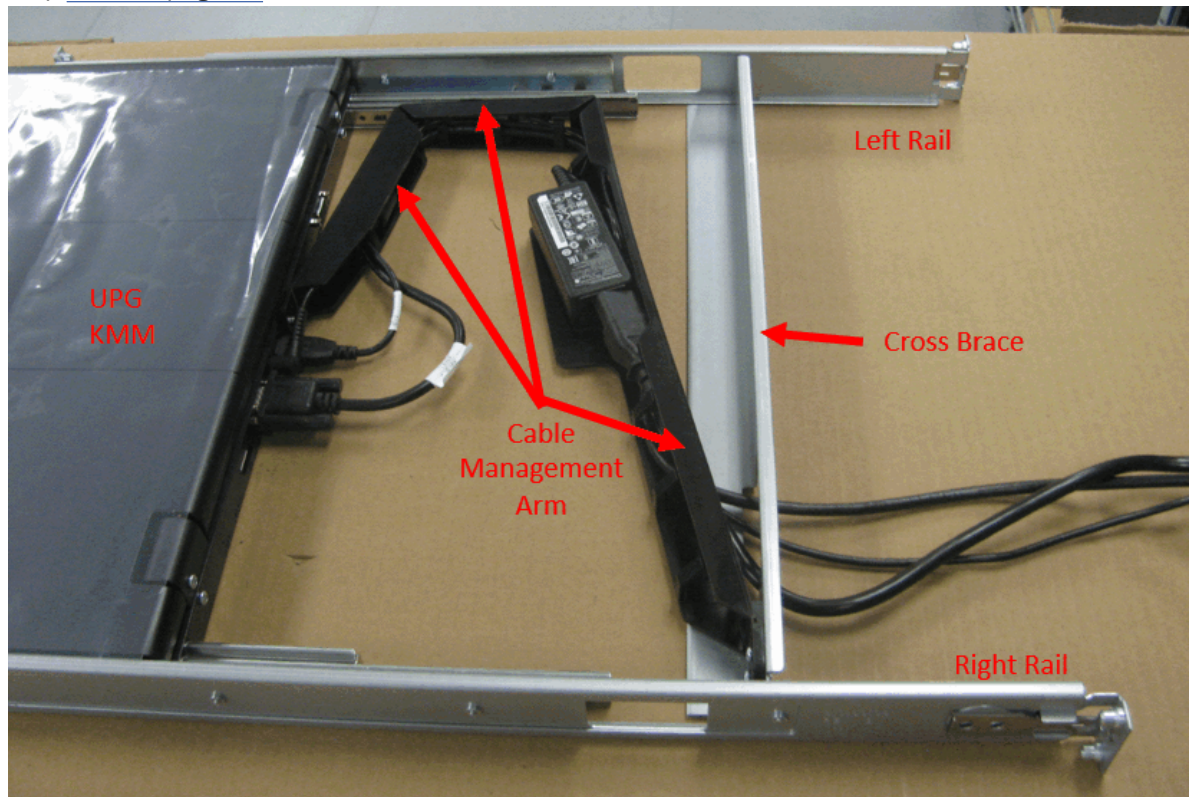

Figure 12. KMM rail assembly with cable management arm, cross brace, and cables installed
- ___ 9. Before continuing to the next step, refer to Figure 12 on page 97, which shows the KMM rail assembly with the cable management arm, cross brace, and cables installed. Use this figure as a reference as you complete the KMM and rail assembly installation (step "10" on page 97 through step "13" on page 98).